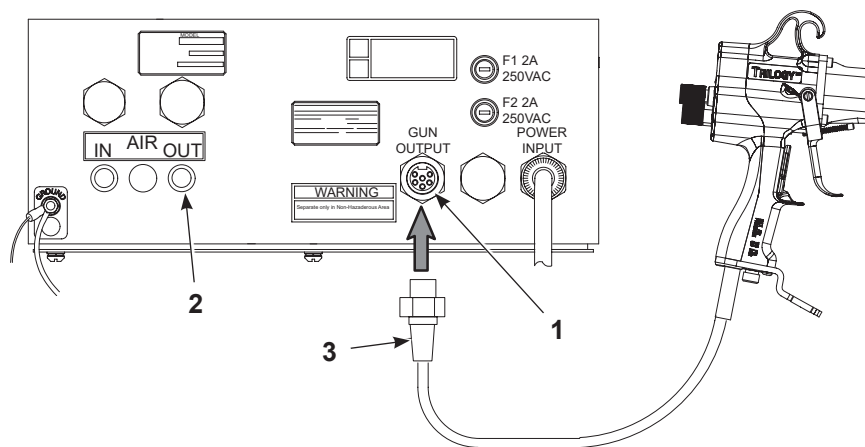

Figure 3-3 Gun Cable Connection
2. See Figure 3-3. Connect the air hose from the air OUT fitting on the gun control unit to the 1/4-in. NPSM fitting in the spray gun handle.
See Figure 3-3. Connect the gun cable plug (3) to the GUN OUTPUT receptacle (1) on the rear panel of the control unit. Refer to the gun control unit manual for installation and operation information.